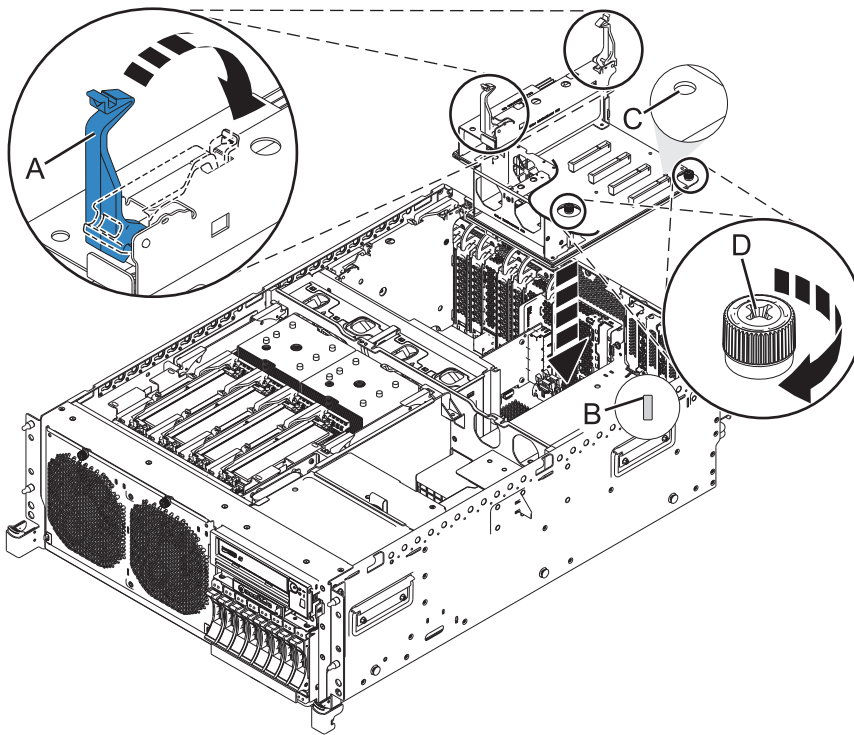

Figure 19. Replacing the PCI riser
- b. Press the PCI riser latches (A) down until they lock into place. See Figure 19.
- c. Tighten the two thumbscrews (D).